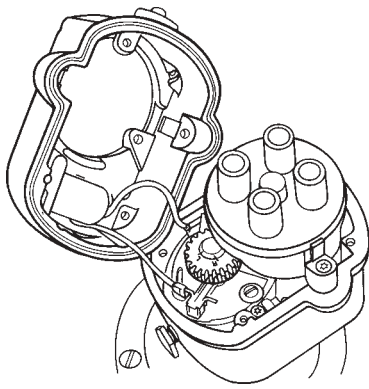

Figure 7.17
- A. Connect retard terminal wire to retard contact points. (See Figure 7.17.)